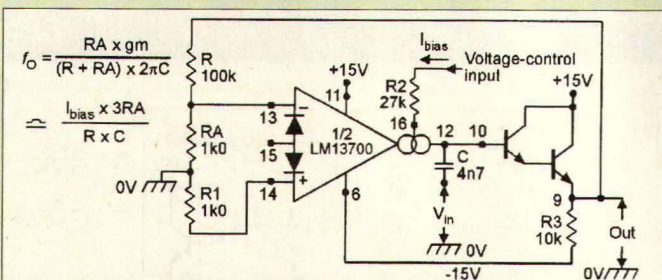

Figure 17. Voltage-controlled, high-pass filter covering 6Hz to 6kHz.
As the frequency increases, however, the impedance (X) of C decreases and the OTA output current is no longer able to fully charge C , and the output signal starts to attenuate at a rate of 6dB per octave. The cut-off point of the circuit — at which the output falls by 3dB — occurs when $XC/20I_{bias}$ equals R/RA , as implied by the formula in the diagram. With the component values shown, cut-off occurs at about 45Hz at an I_{bias} value of $1\mu A$, and at 45kHz at an I_{bias} value of 1mA. A similar principle to the above can be used to make a voltage-controlled high-pass filter, as shown in Figure 17. This particular circuit has, with the values shown, cut-off frequencies of 6Hz and 6kHz at I_{bias} currents of $1\mu A$ and 1mA, respectively.